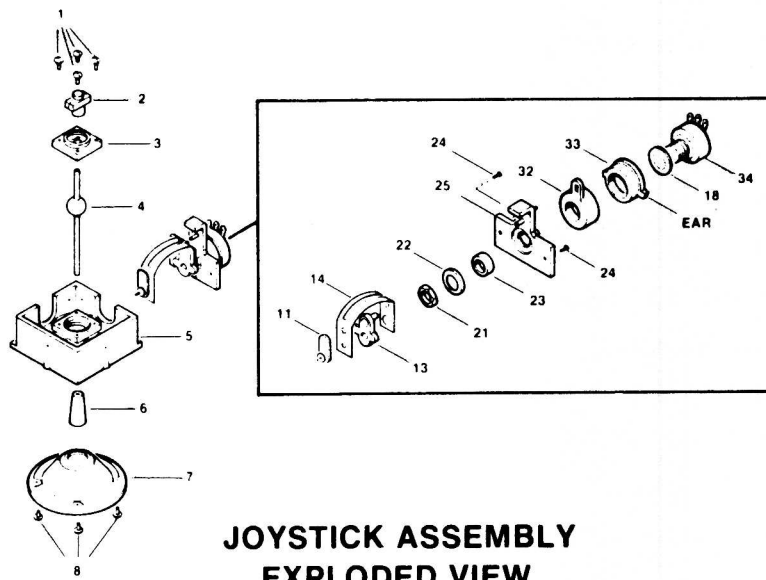

FIGURE 6
- a. First, center the paddle horizontally within its quadrant. The horizontal adjustment determines the right hand limit of paddle travel (right, left, etc. Refer to your right and left when facing the coin acceptor). Move the joystick to the extreme right hand position and turn the "ears" of the horizontal adjuster (Part #33, Figure 6) until the paddle is just inside its right hand boundary.
- f. JOYSTICK UNITS: Disconnect four push-on connectors from the joystick potentiometer and two from the speed button. Remove the four nuts from the mounting bolts and push unit out through top of control panel. *Defective joystick potentiometers are replaced only by sending the entire unit to _____ for rebuilding.* If it is necessary to disassemble the joystick unit for some other reason, consult the exploded view in Figure 6.